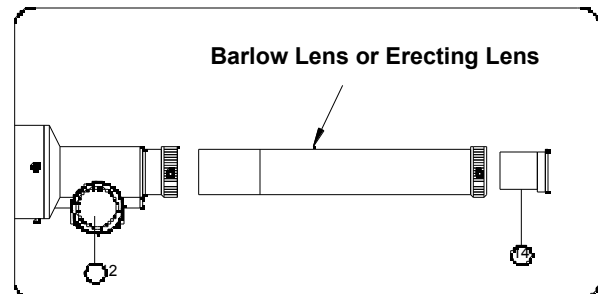

fig. 3
1. Also included with this telescope is an Erecting lens. An Erecting lens is used to view land-based objects where the correct image orientation is important. The Erecting lens re-orient the telescope image so that the image you see is properly oriented. Place your Erecting lens between the focusing tube and the eyepiece (fig. 3). It is not recommended to use the **Diagonal Mirror (13)** with the Erecting lens. The **Diagonal Mirror** will make the erected image appear to be “flipped” depending on the orientation of the diagonal mirror relative to the telescope.